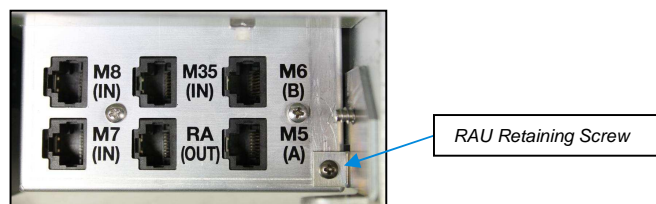

Fig. 15c – RAU Retaining Screw
- Remove retaining screw from RAU (see fig. 15c).
- Unscrew RAU retaining screw (see fig. 15c).